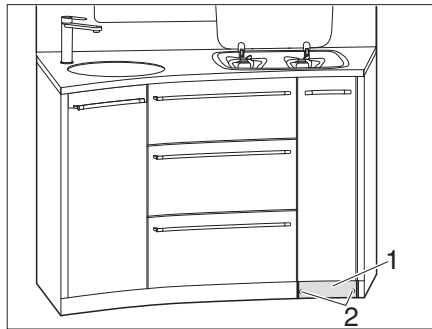

Fig. 120 Unscrewing skirting board
- Unscrew 2 screws (Fig. 120,2) from the skirting board (Fig. 120,1).
- Remove the skirting board (Fig. 120,1).